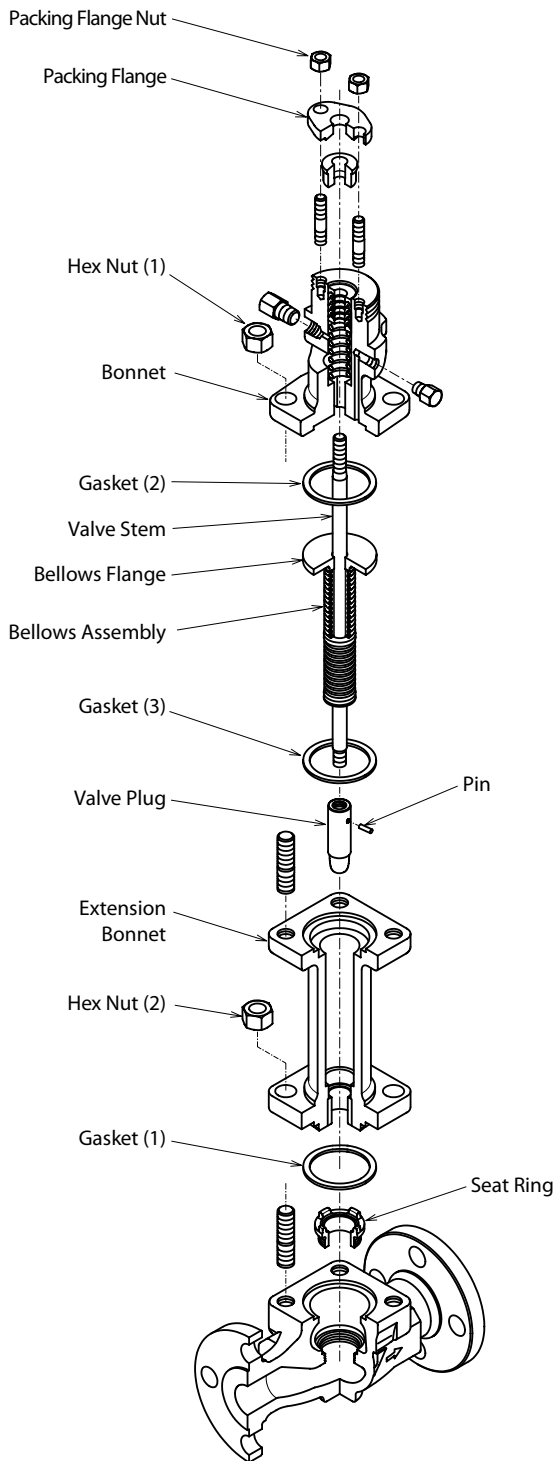
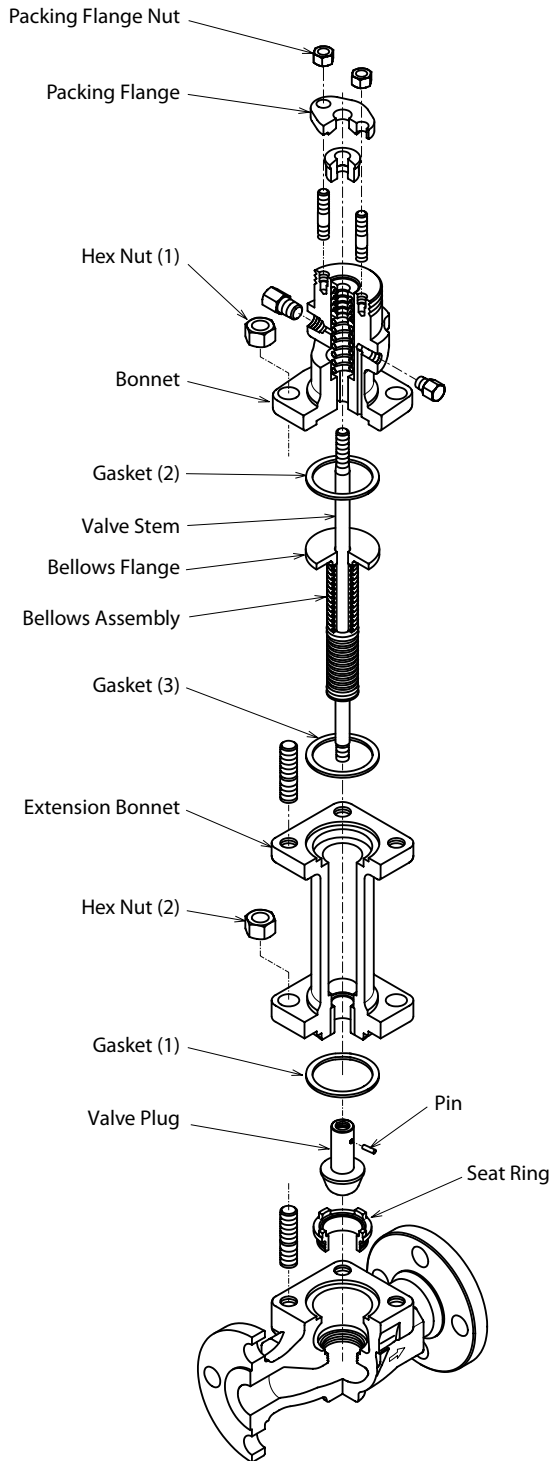

Figure 9-1 Model HLS Control Valves with Bellows seal ($C_v \geq 4$)
Figure 9-2 Model HLS Control Valves with Bellows seal ($C_v \geq 6.3$) and with PTFE Insert
The handling methods of Model HLS Control Valves differ as the shapes of their ports differ depending on, Cv values and on whether they are provided with a PTFE insert or not. The structures of typical valves are shown in Figure 9-1 and Figure 9-2.
(6)-1. For Valves with Cv. 4 (See Figure 9-1.)
(6)-2. For Valves with $Cv \geq 6.3$ and with PTFE Insert (See Figure 9-2.)